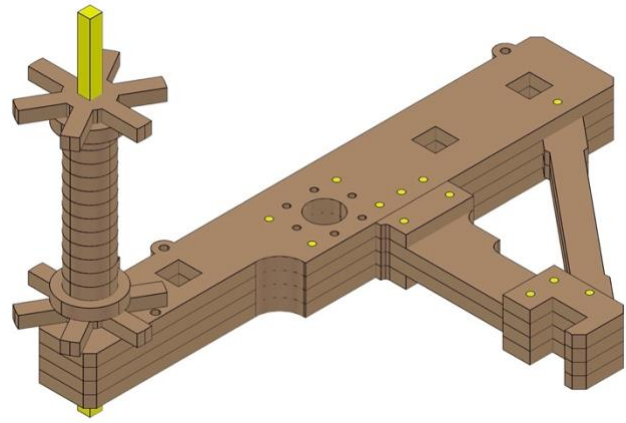

Fig. 34
- *Fig. 34* shows the completed process.